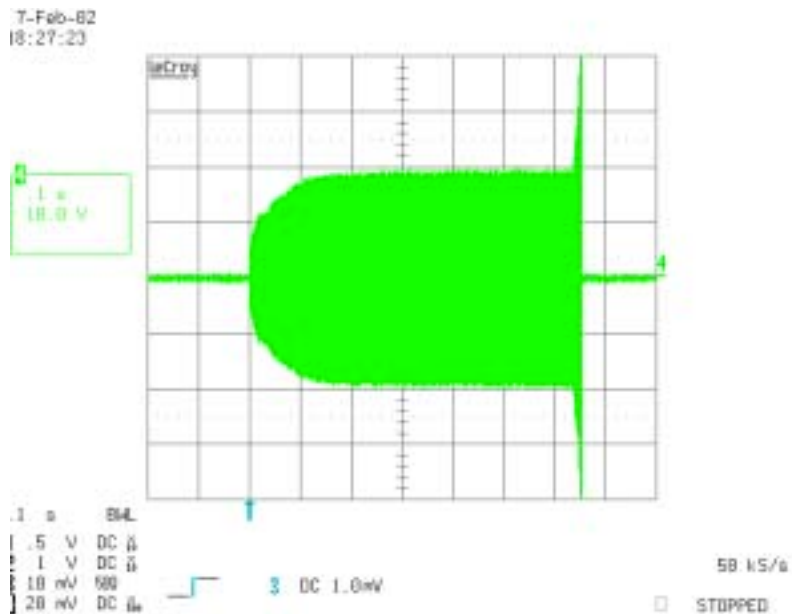

Figure 2: Lamp filament voltage during preheat and Ignition Ramp (crossed lamps)
The ballast control section oscillator of the IR2166 is similar to oscillators found in many popular PWM voltage regulator ICs and consists of a timing capacitor and resistor connected to ground. Resistors RT and RPH program a current which determines the ramp up time of capacitor CT. The downward ramping time of CT is the dead time between the switching off of the LO (HO) and the switching on of the HO (LO) pins on the IR2166. The Preheat mode frequency of oscillation is determined from the parallel between RT and RPH. It is selected such that the voltage appearing across the lamp is below the minimum lamp ignition voltage while supplying enough current to preheat the lamp filaments to the correct emission temperature within the Preheat mode period. The preheating of the lamp filaments is performed with a constant voltage during the Preheat mode. The waveform in Figure 1 shows the lamp filament current while Figure 2 shows lamp filament voltage during the normal Startup, Preheat and Ignition Ramp modes of the ballast.